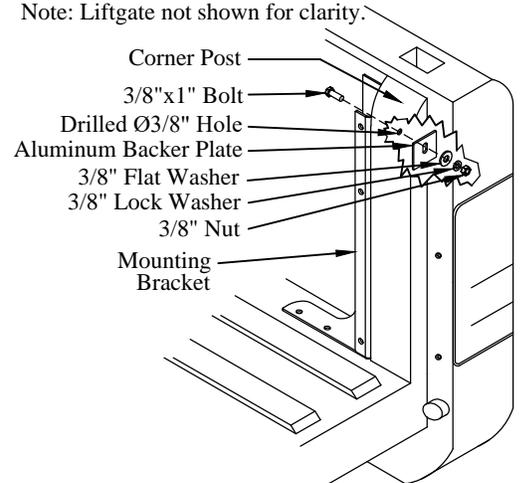

Figure 10: Mounting bracket and backer plates.
11. **Fasten** each bracket to the truck corner post using the supplied (Figure 10):